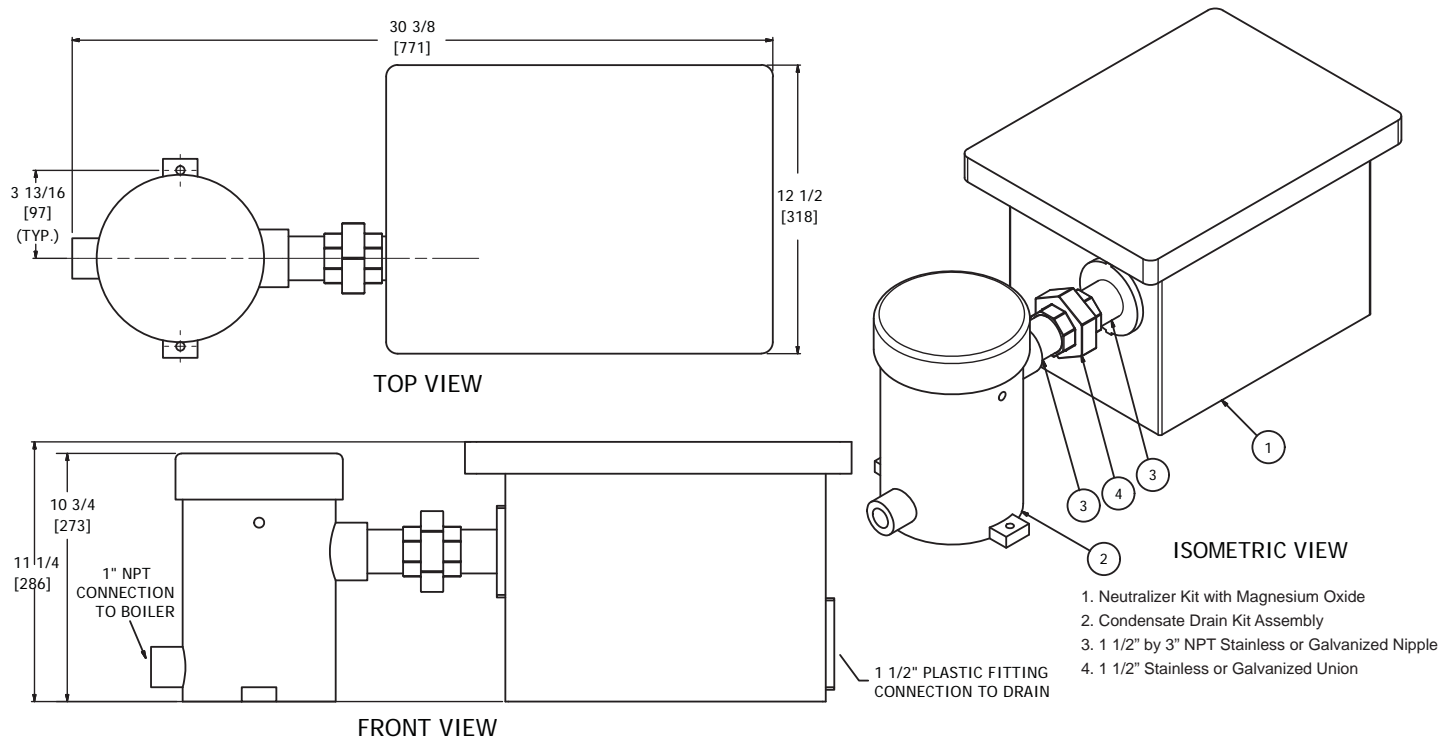

FIGURE 6 - FIELD CONNECTIONS FOR CONDENSATE DRAIN TO PH NEUTRALIZATION TANK
2. Connect kit downstream of Condensate Drain Trap. See Figure 6.